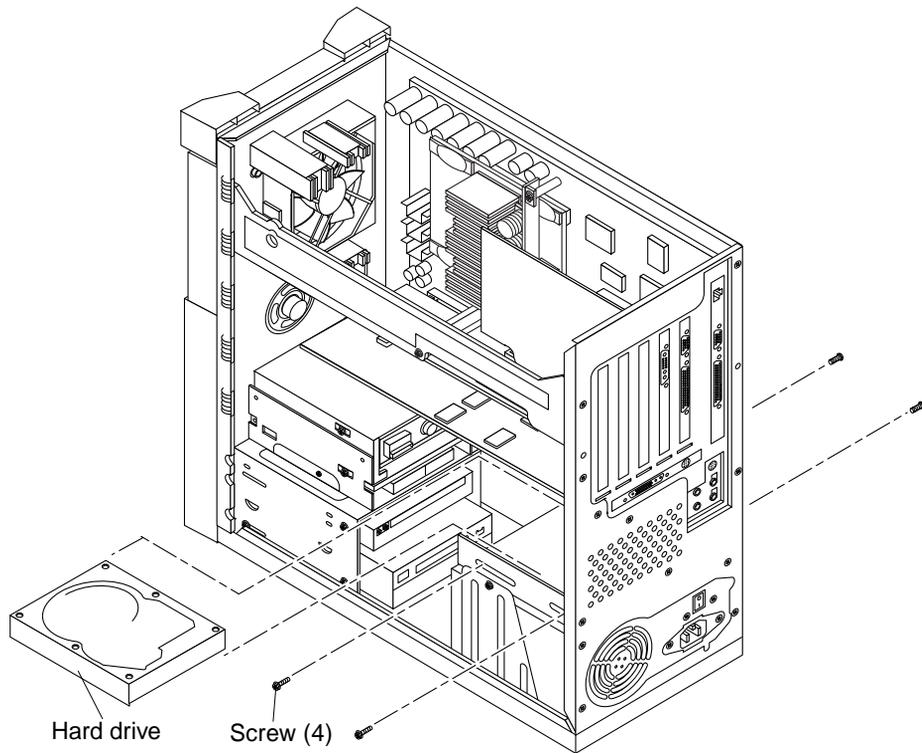

FIGURE 9-6 Removing and Replacing a Hard Drive (Ultra 10 Chassis Rear)
- 6. Remove the hard drive from the Ultra 10 chassis rear as follows (FIGURE 9-6):**
3. Replace the hard drive into the Ultra 10 chassis rear as follows (FIGURE 9-6):